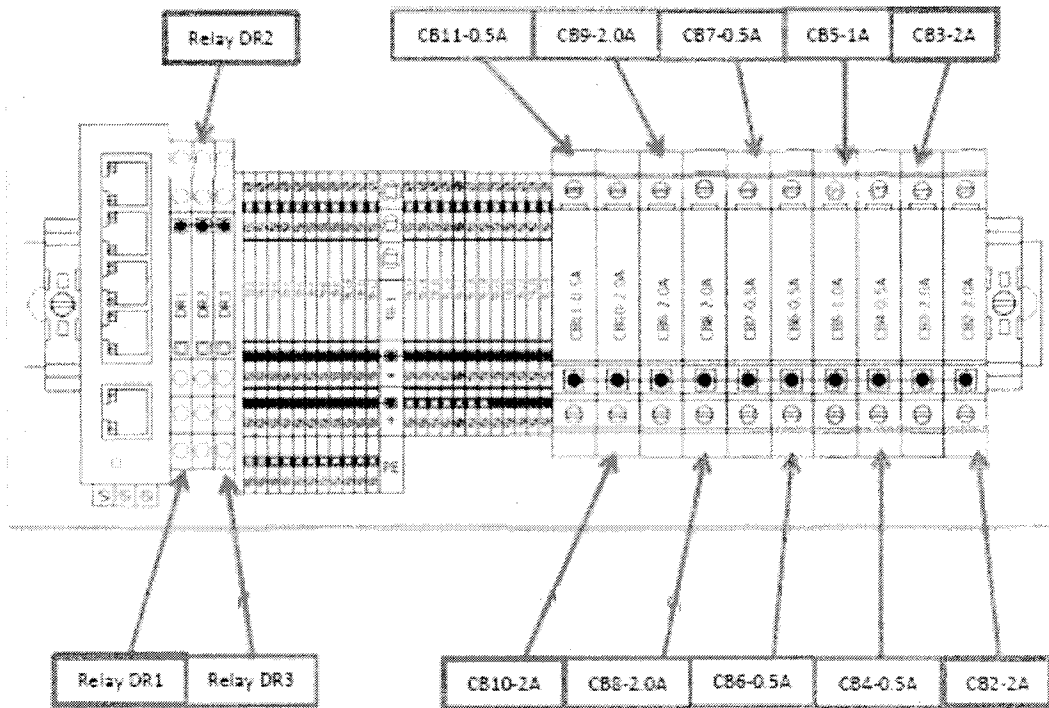

Figure 19
- the detailed description makes reference to Fig. 19 only in par. [0759], and without any reference to the elements in the figure;